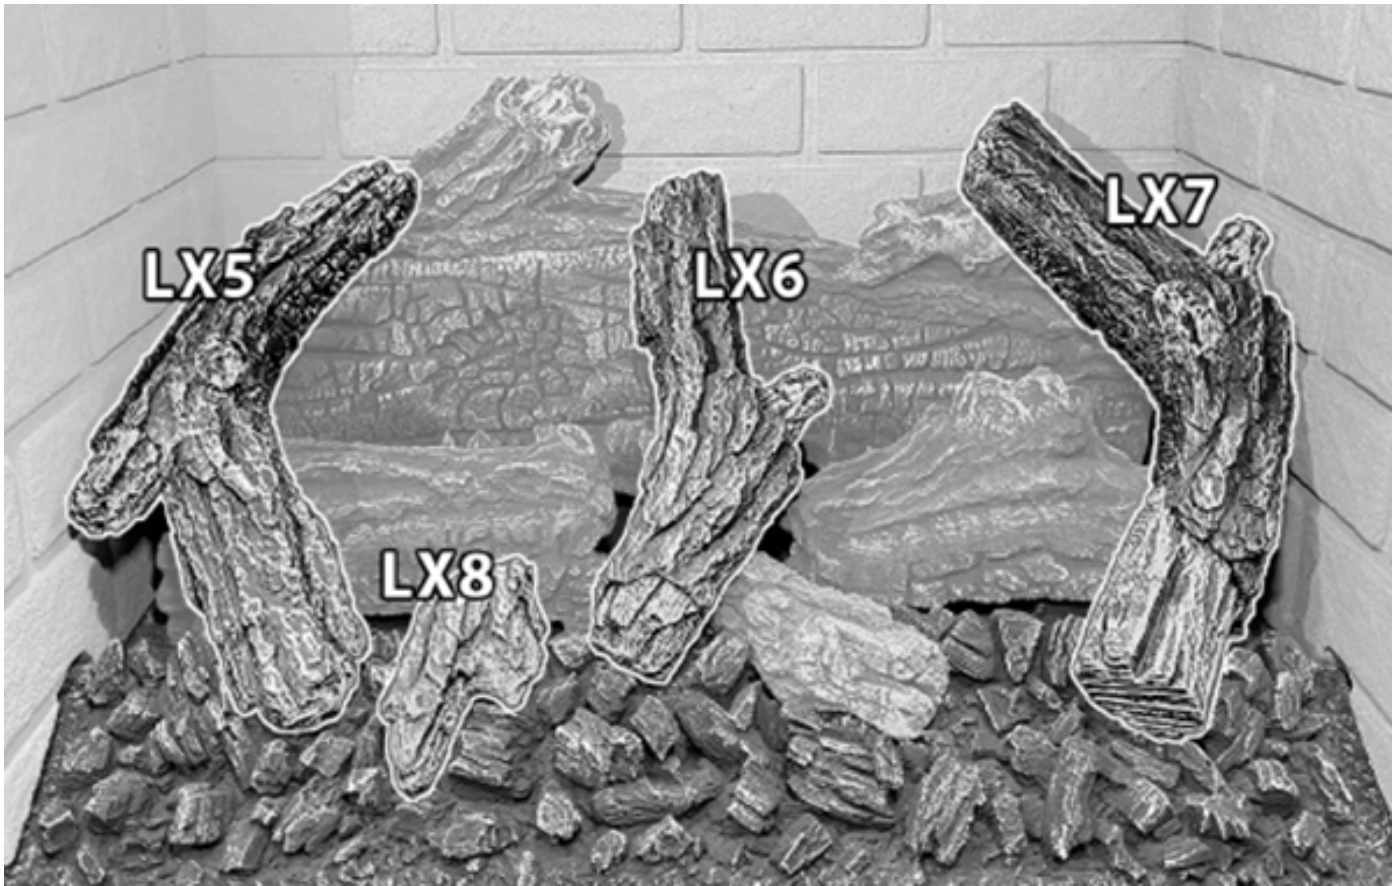

Figure 6.4 - Top Logs
5. Align log LX5 with the left pin in log LX1 and the notch in log LX2 and position as shown in Figure 6.4.
6. Align log LX6 with the pin in the middle of log LX1 and the notch in the middle of the ash panel, and position as shown in Figure 6.4.
7. Align log LX7 with the right pin log LX1 and the notch in the right side of the ash panel, as shown in Figure 6.4.
8. Align log LX8 with the notch in the ash panel, as shown in Figure 6.4.